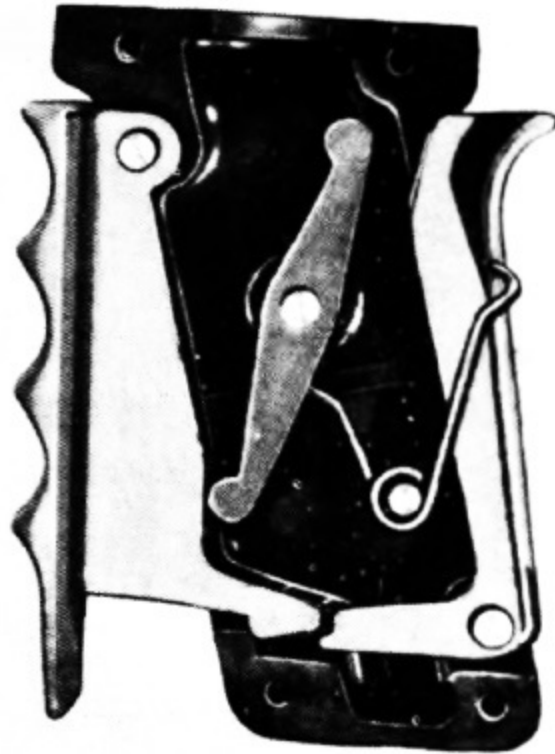

Fig 48. Location of parts in right valve grip before covering them with left valve grip.
(1) Place grip safety, valve lever, and rocker arm in position in right valve grip. (Fig 48) Be sure the shorter end of rocker arm is at the top. Place grip spring over spring pin. Slip short end of grip spring in groove of rocker arm. Place long end of grip spring on outside of grip safety.